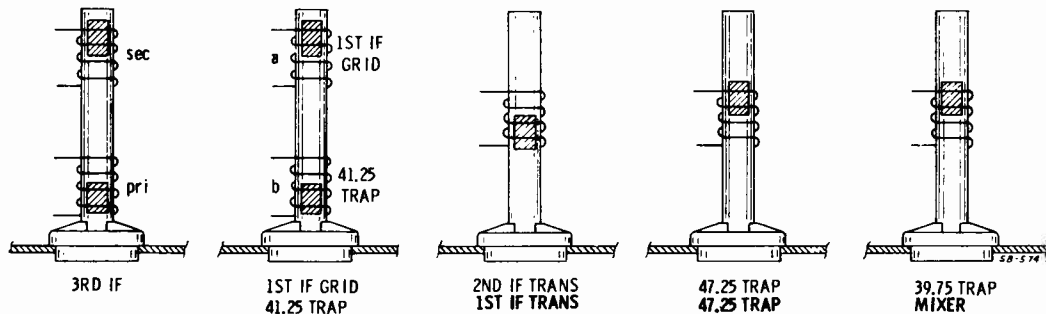

FIGURE 7. COIL SLUG POSITIONS FOR ALIGNMENT
5. All coil slug tuning positions, in relation to chassis, are given in the procedure chart and in the separate detail of fig. 7.